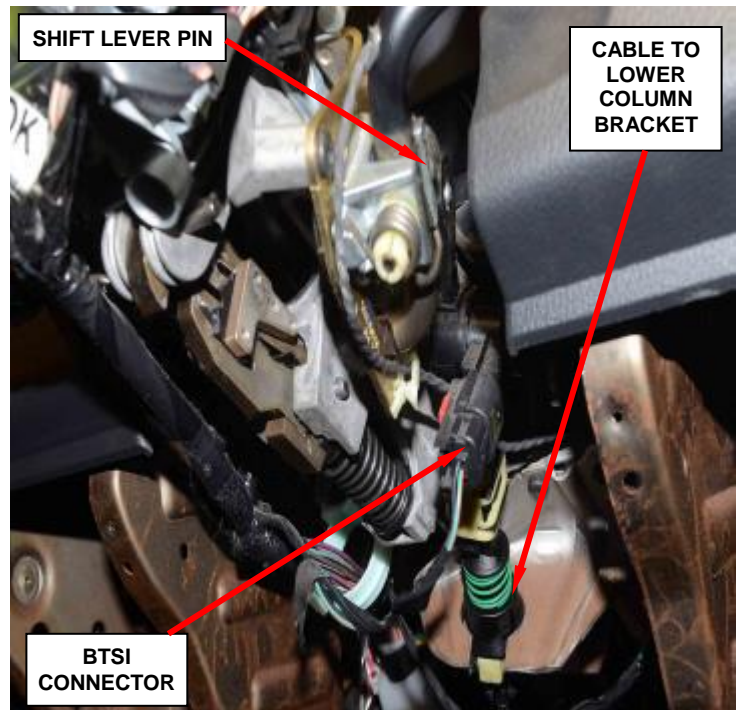

Figure 135 – Gear Shift Cable
13. Disconnect the gearshift cable from the column (Figure 135).